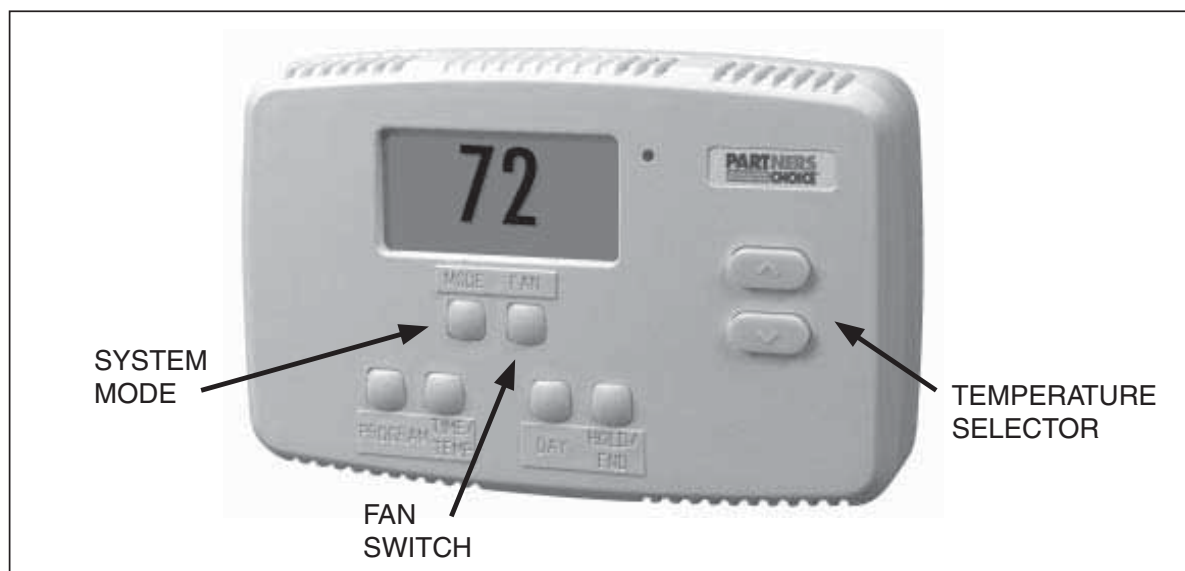

Figure 1. Typical Thermostat
1. Set the thermostat system switch to COOL and the thermostat fan switch to AUTO. (See Figure 1)
1. Set the thermostat system switch to HEAT and the thermostat fan switch to AUTO. (See Figure 1)
1. Set the thermostat system switch to AUTO and the thermostat fan switch to AUTO. (See **Figure 1**)
Set the thermostat system switch to OFF and the thermostat fan switch to AUTO. (See **Figure 1**) The system will not operate, regardless of the thermostat temperature selector(s) setting.
Set the thermostat fan switch to ON (See **Figure 1**). The indoor blower will start immediately, and will run continually until the fan switch is reset to AUTO.